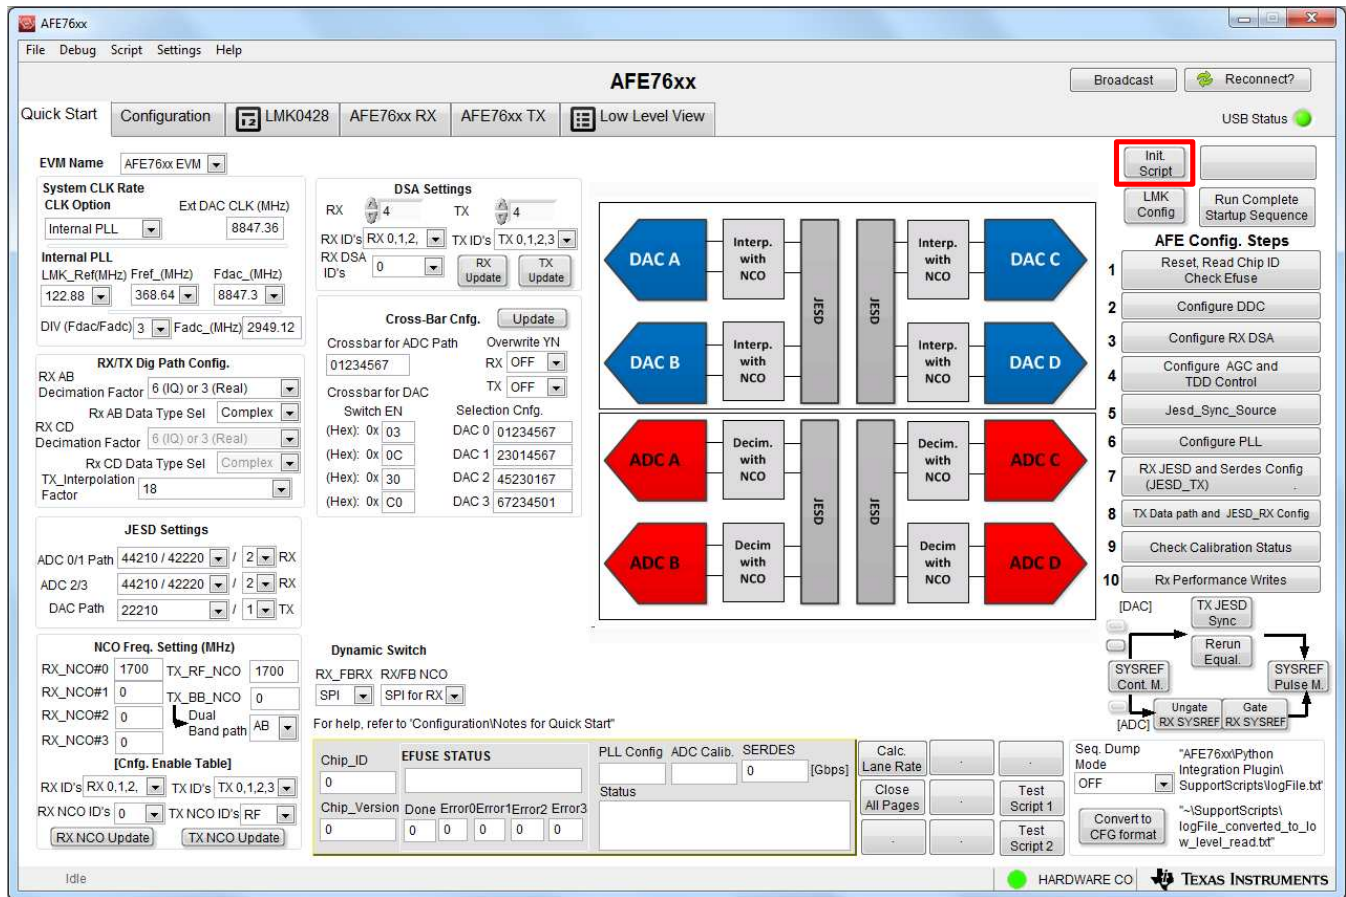

Figure 8. AFE76xx GUI Setup
6. Open the AFE76xx GUI. The screen in Figure 8 should appear.